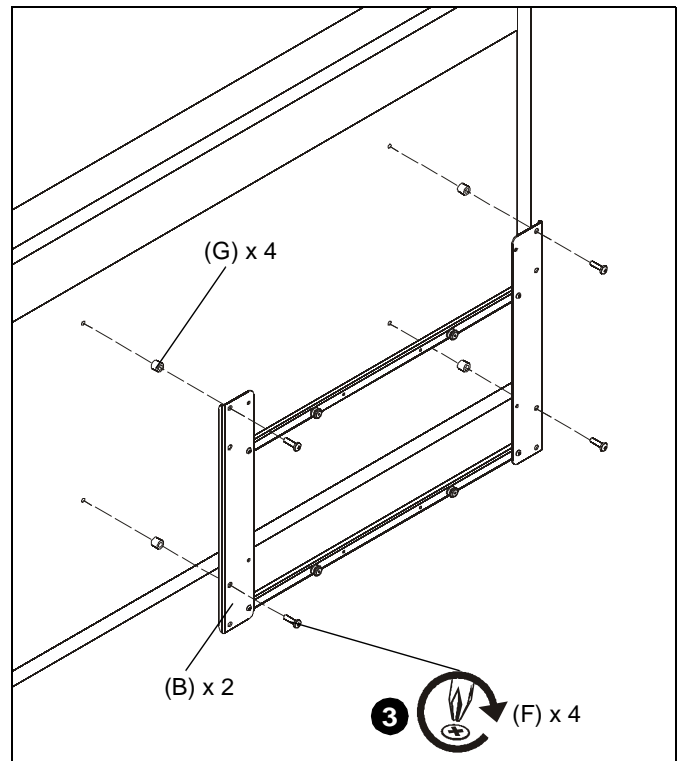

Figure 2
3. Use four M8x30mm Phillips machine screws (F) and four 5/8" spacers (G) to attach two PSB brackets (B) to display. (See Figure 2)
IMPORTANT ! : Use mounting holes shown in Figure 2 in order to achieve a centered mount.